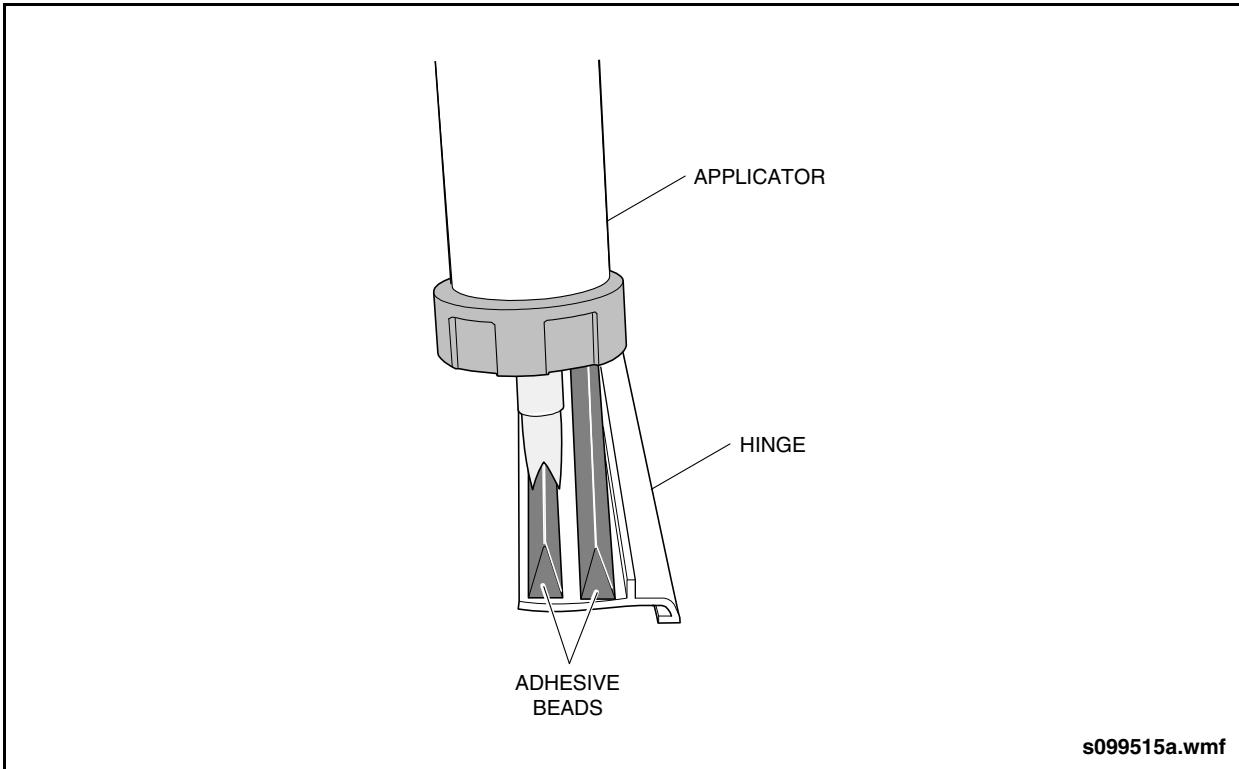

Fig. 14-19: Male Hinge Adhesive Application
2. Apply two beads of Simson adhesive along the full length of the male hinge. See "Fig. 14-19: Male Hinge Adhesive Application" on page 24.